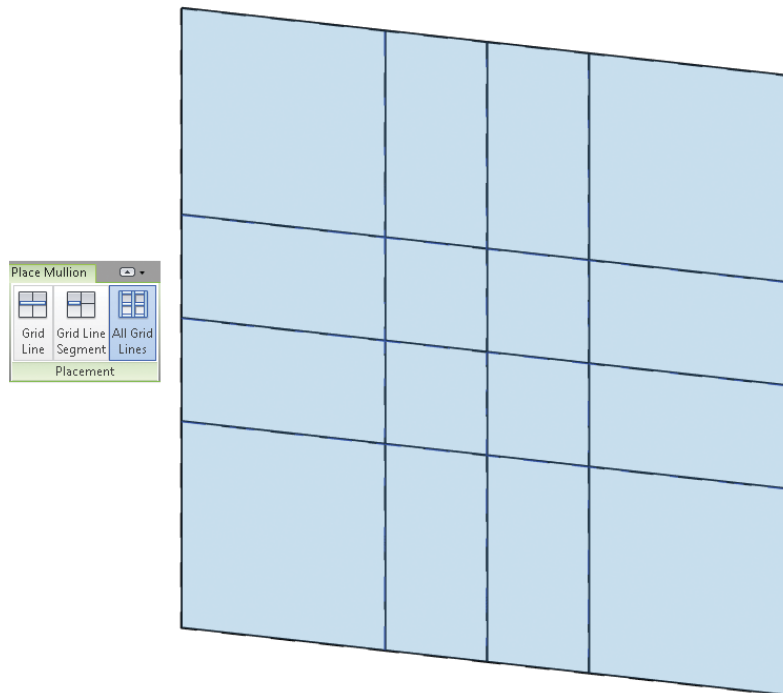

FIGURE 2.18 Completed curtain grid lines
- Using the default All Segments placement option on the ribbon, add three grid lines along the horizontal and vertical directions. At this point the curtain wall should look like Figure 2.18.
- Now that you've added curtain grids, you can add mullions to the curtain panel. Select the Mullion tool from the Build panel, and choose the All Grid Lines placement option on the ribbon (Figure 2.18).